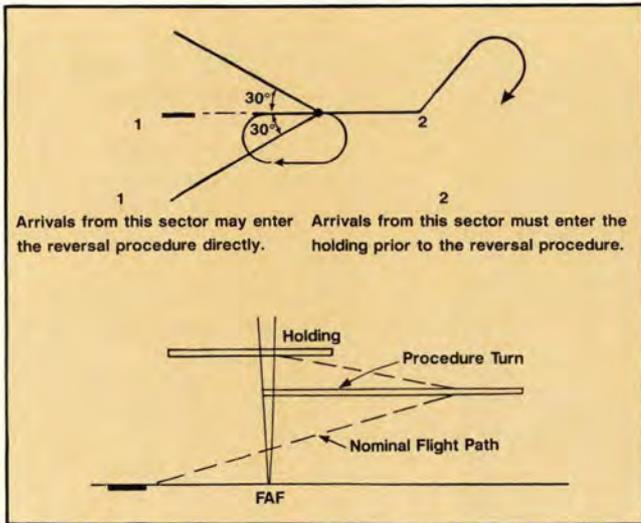

Figure 1
**Reversal procedures**, like the 45°/180°, 80°/260°, or base turn, have very specific procedures for entry and approach. Entry will be restricted to a specific direction or sector (figure 1). It must be noted the airspace provided for the course reversal (procedure turn or base turn) does not provide for a racetrack or teardrop maneuver unless the procedure so specifies.